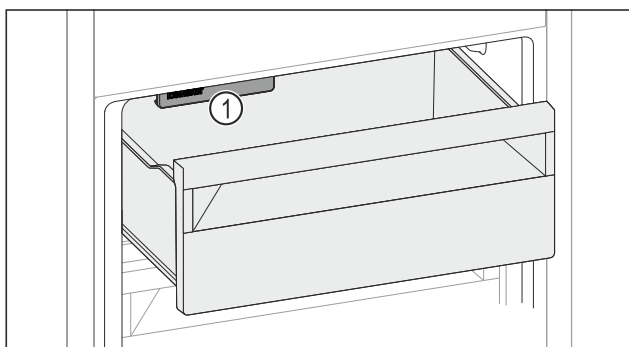

Fig. 160
- ▶ Uzmite u obzir IceMaker Fig. 160 [1].